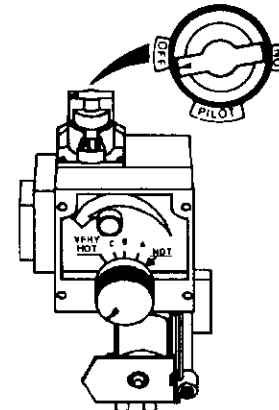

Figure 9
4. Set the thermostat to lowest setting by turning the water temperature dial clockwise,  to its lowest temperature setting (with arrow on dial) as shown. **DO NOT FORCE.** (Figure 9, Page 22)
6. Wait five (5) minutes to clear out any gas. If you then smell gas, **STOP!** Follow "B" in the safety information above on this label. If you don't smell gas, go to the next step.
9. If you don't smell gas, turn knob on gas control counter-clockwise  to "PILOT" position. (Figure 9, Page 22)
10. Push in control knob all the way and hold down. Immediately light the pilot with a match. Continue to hold control knob in for about one (1) minute after the pilot is lit. Release knob and it will pop back up. Pilot should remain lit. If it goes out, repeat steps 5 through 10.
- If the pilot will not stay lit after several tries, depress and turn the gas control knob clockwise  to "OFF" and call your service technician or gas supplier. (Figure 9, Page 22)
4. Turn gas control knob clockwise  to "OFF" position. Knob cannot be turned from "PILOT" to "OFF" unless knob is depressed slightly. **DO NOT FORCE.** (Figure 9, Page 22)